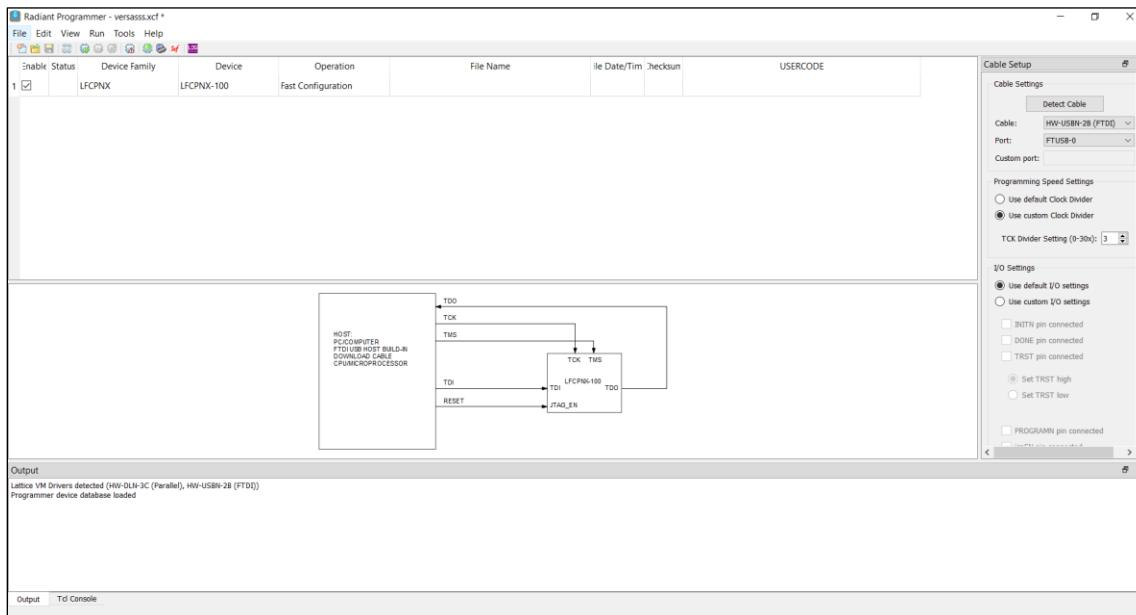

Figure 3.4. Radiant Programmer Opened from Windows Start Menu
4. You can see the selected project opened in the Programmer (Figure 3.4).